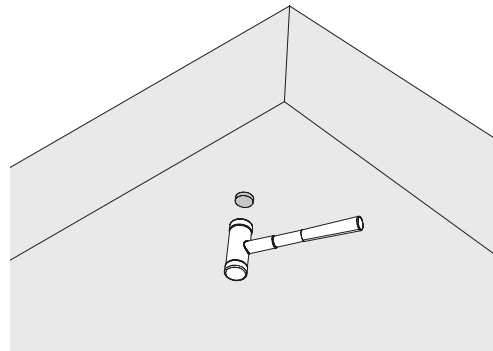

Fig. A4.04
3. Insert the concrete plug into the opening and tap it into the tie hole with a rubber mallet until it is flush. (Fig. A4.04)